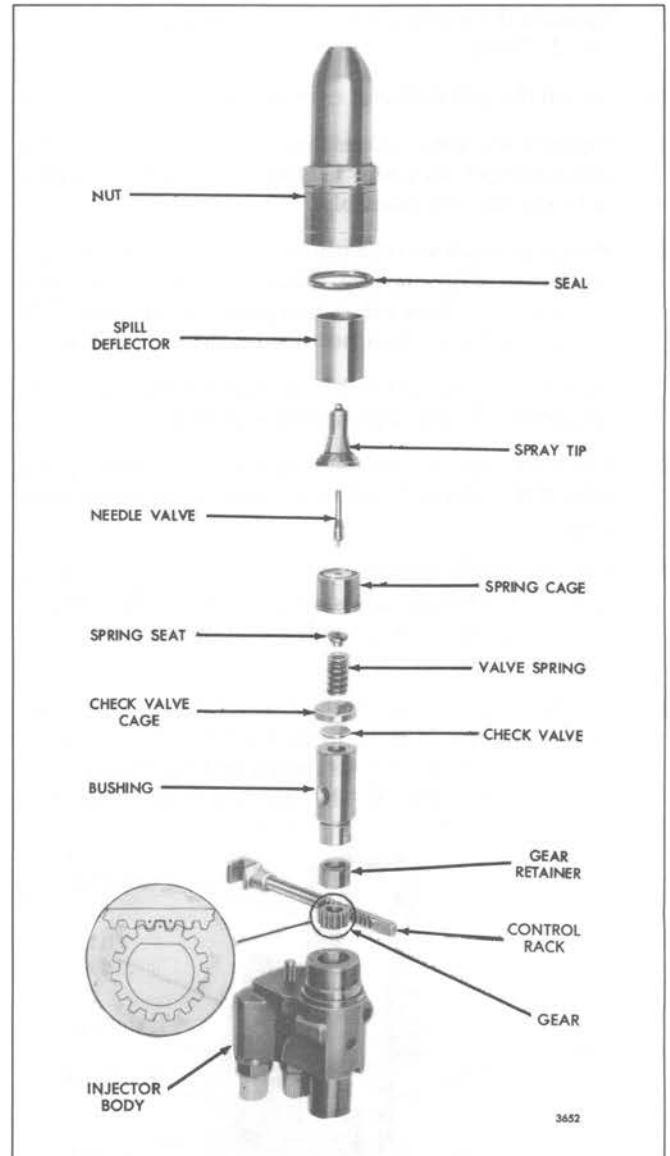

Fig. 29 – Injector Rack, Gear, Spray Tip and Valve Assembly Details and Relative Location of Parts
9. Refer to Fig. 29 and note the marked teeth on the control rack and gear. Then, look into the body bore and move the rack until you can see the drill marks. Hold the rack in this position.
10. Place the gear in the injector body so that the marked tooth is engaged between the two marked teeth on the rack (Fig. 29).